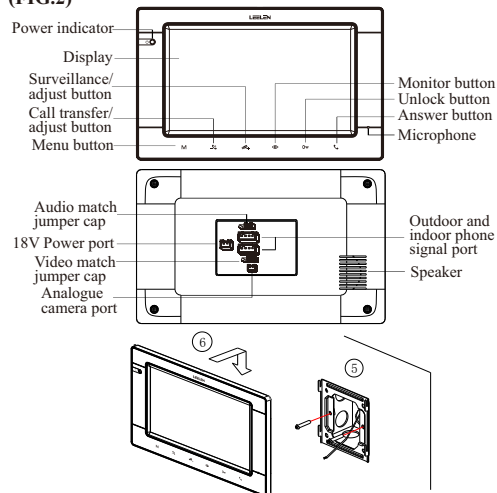

FIG. 2
2.2 Indoor phone structure and installation diagram (FIG.2)